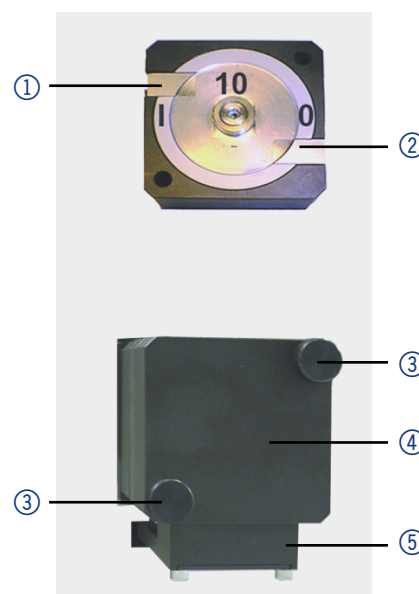

Fig. 4: Inserting the flow cell
1. Unscrew the knurled-head screws ③ of the cover plate ④. Hold the flow cell securely with your hand during this procedure.
2. Pull out the slide with the flow cell ⑤ towards the front.
4. Position the new flow cell on top of the slide. Keep holding the flow cell. Make sure that the alignment pin of the detector is aligned with the corresponding hole in the flow cell (see figure 4).
6. Screw the knurled-head screws back into the cover plate ④ and tighten.
7. Connect the incoming and outgoing capillaries at the inlet ① and outlet ② of the measuring cell.